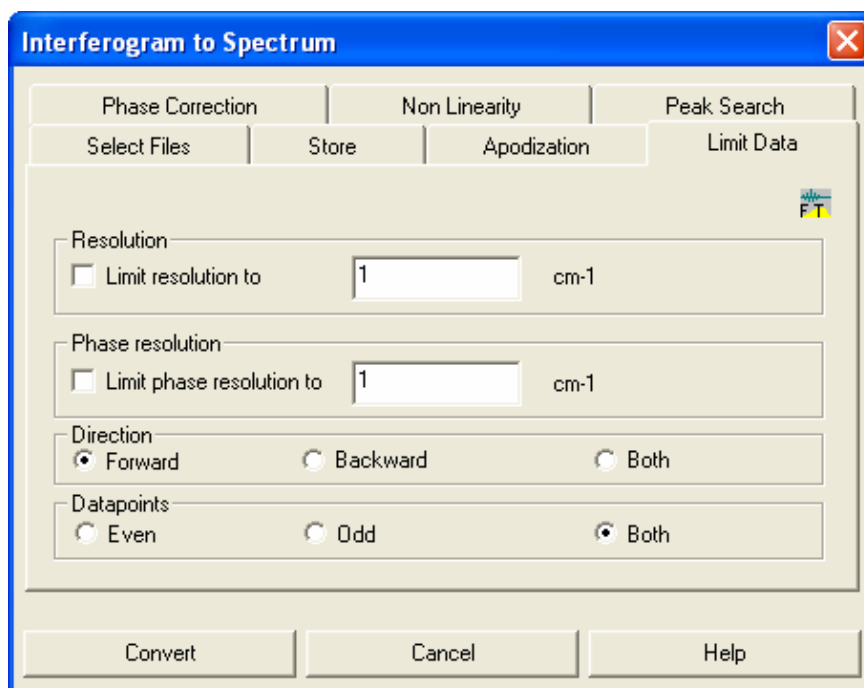

Fig. 21: "Interferogram to Spectrum" dialog window - "Limit Data" page
- On the "Limit Data" page (fig. 21) the checkboxes "Limit resolution to" and "Limit phase resolution to" usually need not to be activated. Activate in the "Direction" group field the "Forward" option button and in the "Datapoints" group field the option button "Both". (See figure 21.)